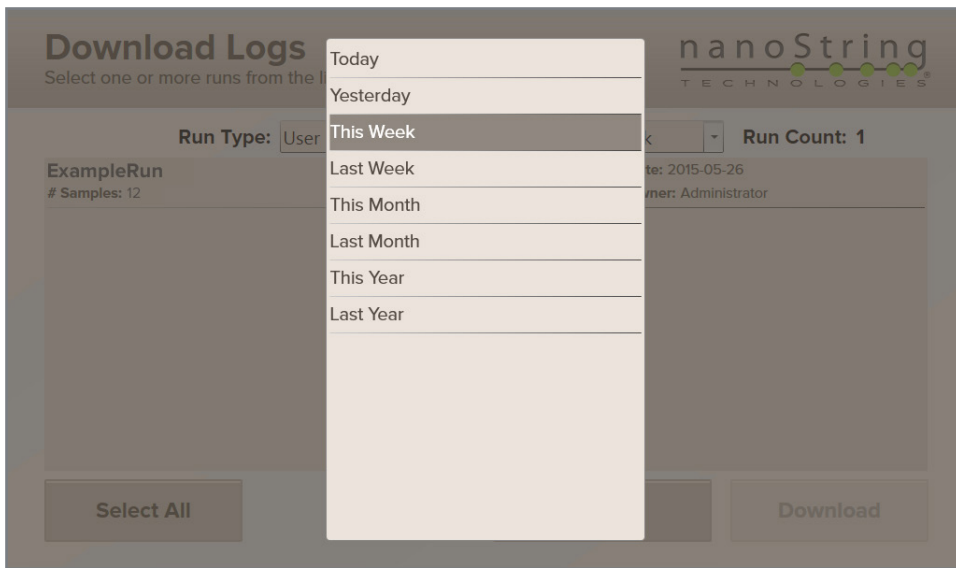

FIGURE 8.6 Files can be filtered by date.
2. To select a log for download, touch the run name on the screen. One or more runs may be selected by touching each name. To deselect a run, touch it again. If you are trying to access older runs, use the Date Filter to select a different period (FIGURE 8.6).